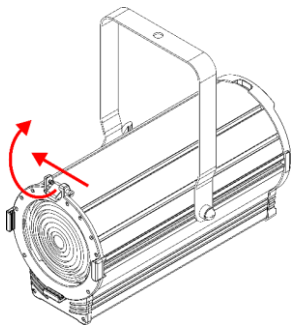

Fig. 11
- 01) Push the **spring-loaded screw (01)** and at the same time lift the **color frame clip (02)** and flip it backwards (see Fig. 11).